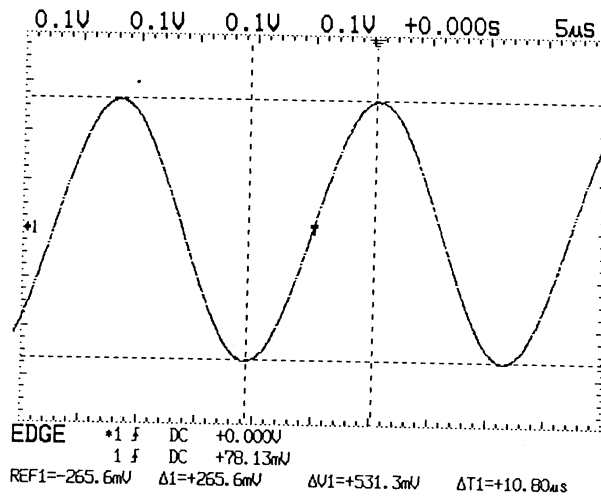

Fig. 6-46
(3) In case of cross cursors (+ CURSORS) (See Fig.6-46)